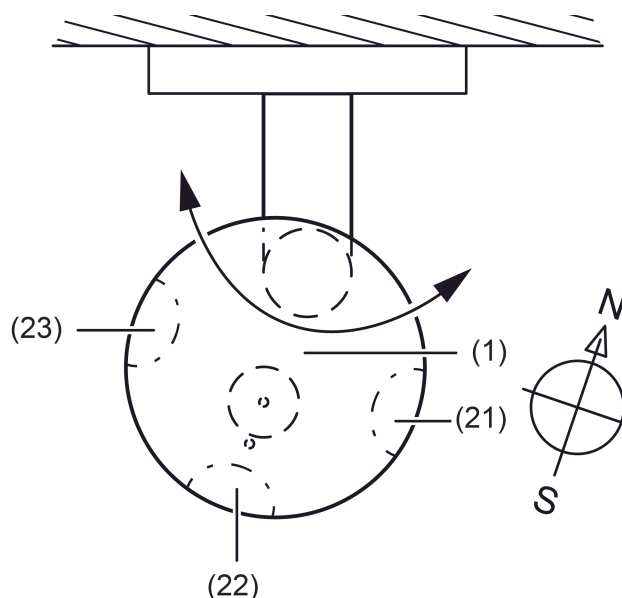

Figure 6: Orientation of the weather station
- (1) Translucent sensor head with the sensor surface of the precipitation sensor, the temperature sensor, the twilight sensor, the wind sensor and the 3 brightness sensors
- (2) Angular arm with variable latching for orienting the sensor head
- (3) Terminal box for connecting the KNX/EIB and the heating voltage to the sensor head
- (4) Location of the temperature sensor
- (5) Sensor surface of the precipitation sensor
- (6) Location of the twilight sensor and brightness sensor 2
- (7) Location of brightness sensor 1 (brightness sensor 3 is located in the 9 o'clock position (Figure 6) and is thus not visible in this view)
- (8) Location of the thermal wind sensor